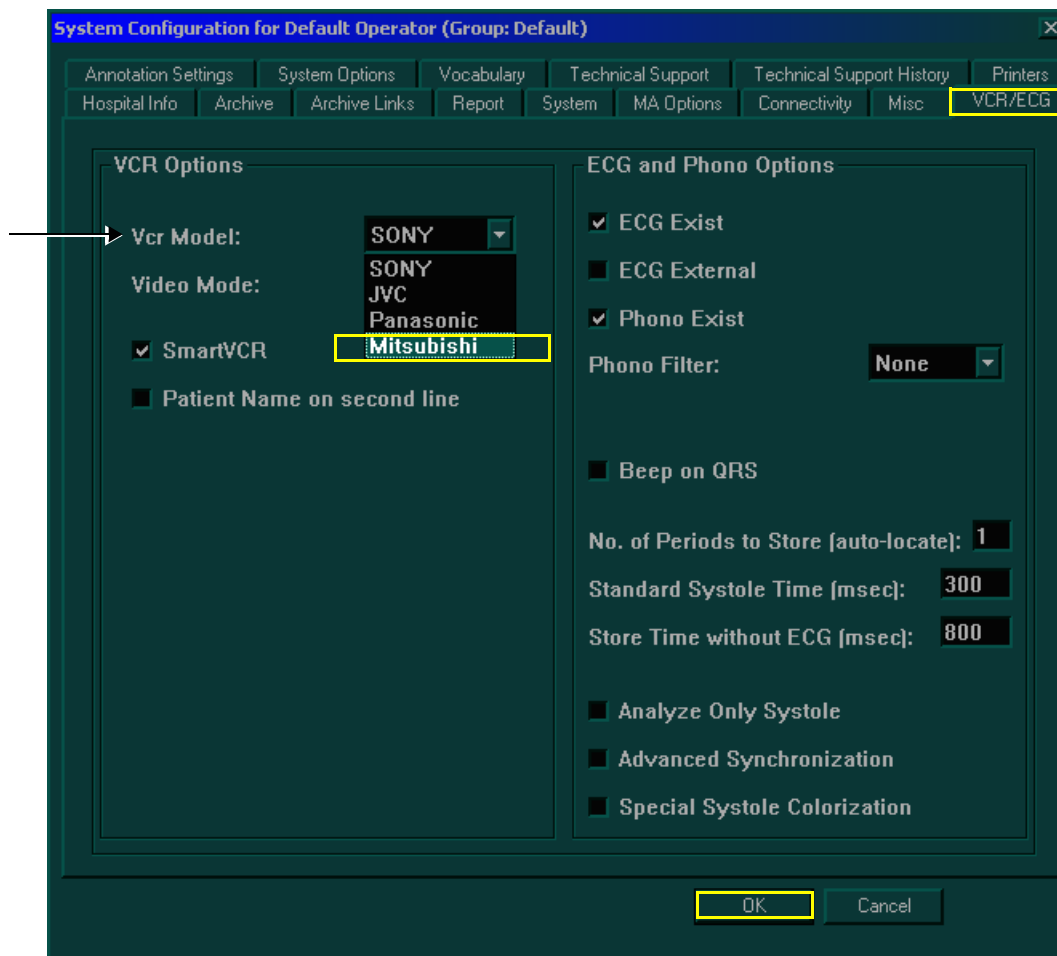

Figure 8-109 Selecting VCR Model - Mitsubishi
7.) Under the VCR Options list, choose Mitsubishi from the **VCR model** drop-down list (Figure 8-109).